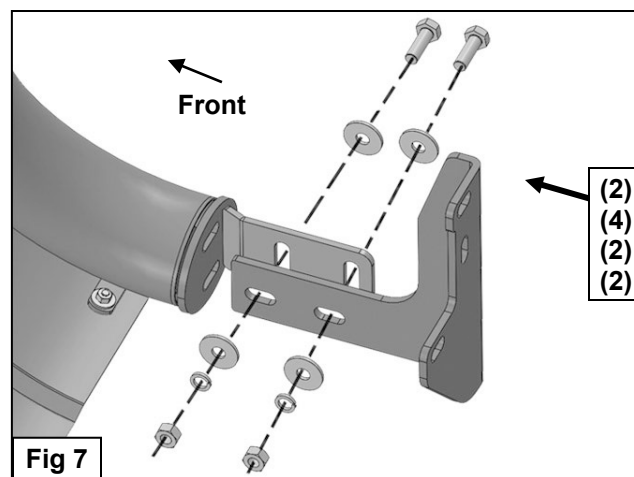

Fig 7
7. With assistance, hold the Bull Bar with Brackets up in position on the outside of the Frame Mounting Brackets. Attach the Bull Bar to the Brackets with (4) 10mm x 30mm Hex Bolts, (8) 10mm x 30mm Flat Washers, (4) 10mm Lock Washers and (4) 10mm Hex Nuts, **(Figures 7 & 8)** Do not tighten hardware.